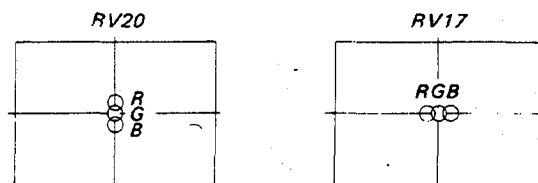

Fig. 1-7
1. Adjust the vertical static convergence with V.STAT (RV20) at the left side of control panel as shown in left of Fig. 1-7.
2. Adjust the horizontal static convergence with H.STAT (RV17) at the left side of control panel as shown in right of Fig. 1-7.